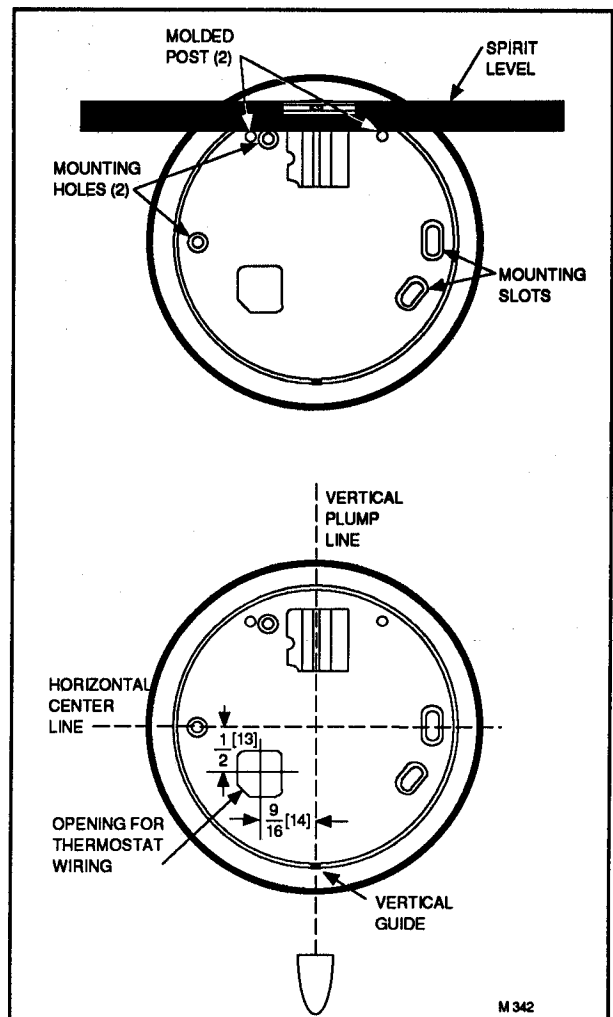

Fig. 13—LEVEL Q539 USING A SPIRIT LEVEL OR PLUM LINE (dimensions are in in. [mm]).
- Level the thermostat subbase using a plumb line or spirit level as shown in Fig. 13.